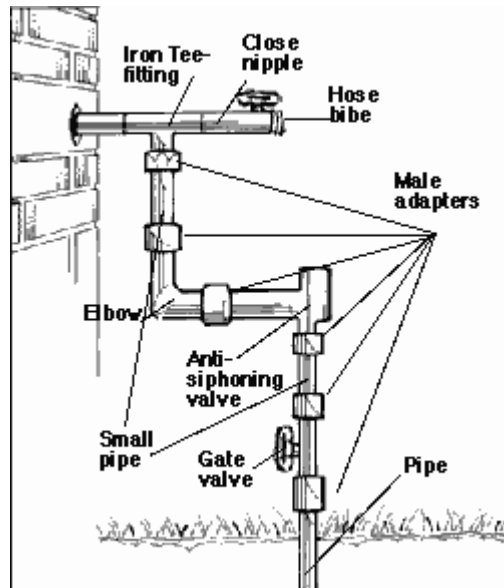

figure 2: The external assembly joins the sprinkler system to the water supply.
T is pointing down, as in figure 2.
7. Assemble the elbow, anti-siphoning valve, and gate valve and attach to the iron T-fitting as in figure 2. Cut sections of pipe to accommodate the distance from the faucet to the ground. Use solvent glue to attach male PVC adapters to the pieces of pipe when needed. Apply plumbers tape to the threads of the male adapters.